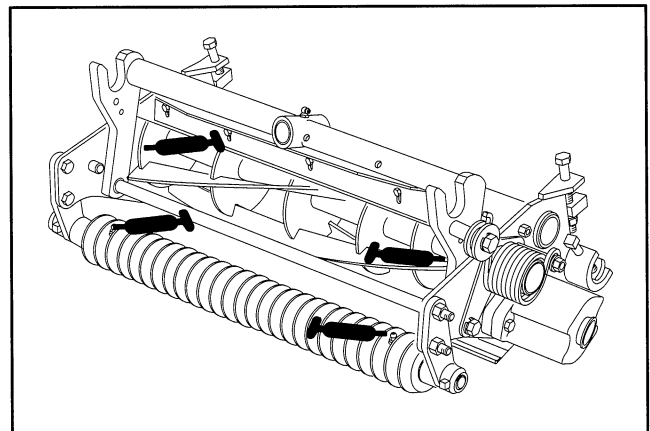

Figure 8
There are six (6) grease fittings on each cutting unit (Fig. 8), which must be lubricated using a No. 2 multi-purpose lithium base grease. A hand operated grease gun is recommended for best results.